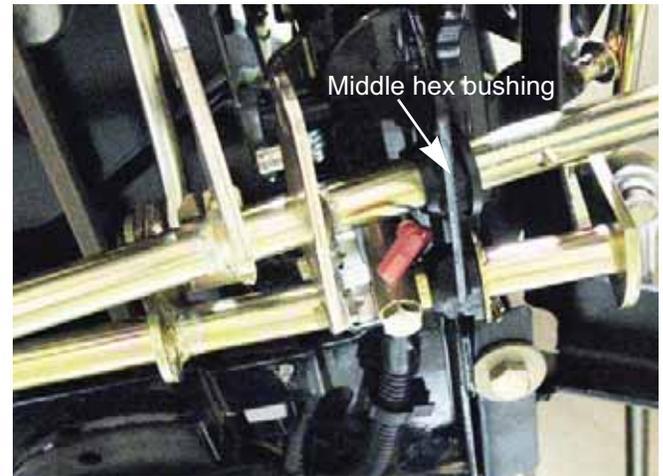

Figure 5B.55
2. Slide the right side of the main shaft through the middle hex bushing. See Figure 5B.55